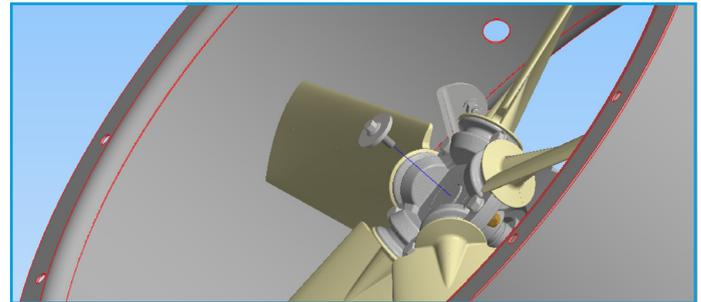

Figure 7. Removal of retaining bolt.
1. Using suitable gloves and an appropriate socket, remove the impeller retaining bolt as per Figure 7. Ensure that the impeller is restrained by hand when attempting to undo the bolt.